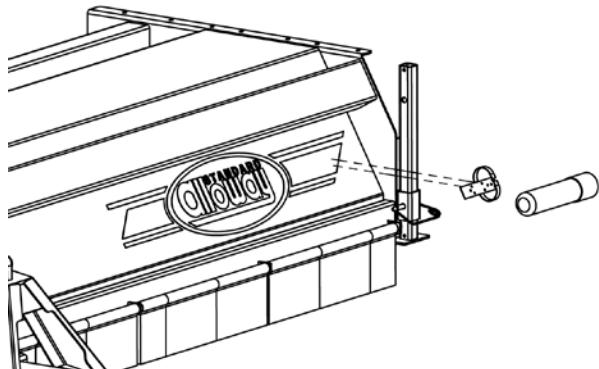

Figure 55. Manual Storage Tube Assembly
1. Mount the tube clamp to the shredder side sheet, using two 1/4" self-tapping screws. Mounting holes are located above the bearing plate (see Figure 55).